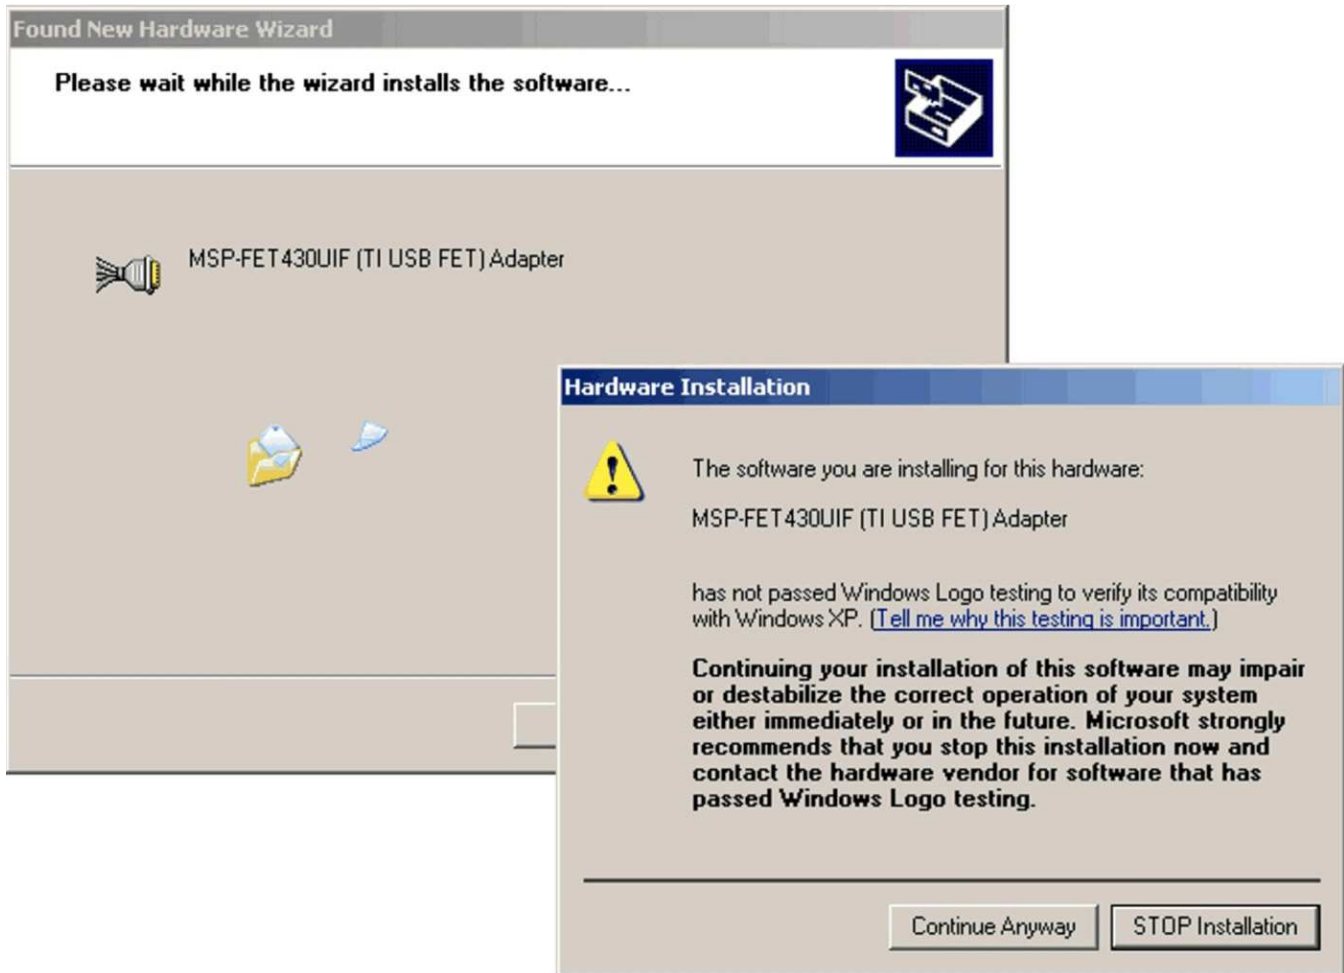

Figure C-4. Windows XP Driver Installation
- Note that Windows may show a warning that the driver is not certified by Microsoft. Ignore this warning and click "Continue Anyway" (see Figure C-4).